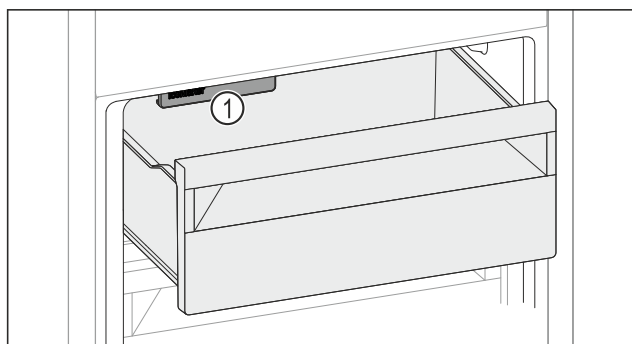

Fig. 140
- ▶ Observera IceMaker Fig. 140 (1).